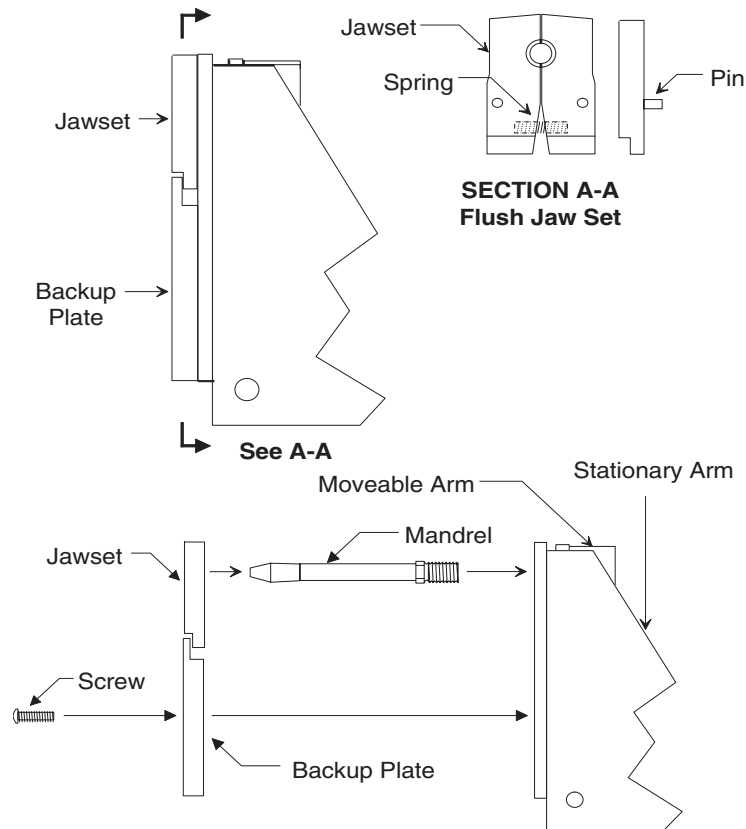

Figure 4-03 — Offset Adapter Jawset (guard not shown)
- 4.6.2.6 Remove or loosen the two screws holding the nose cap backup plate onto the offset adapter. Ref. Fig. 4-03.